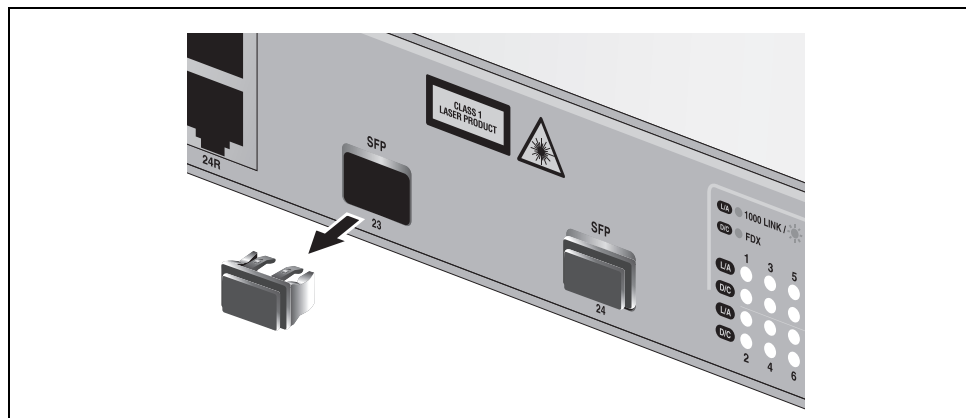

Figure 31. Removing a Dust Plug for an SFP Slot
1. Remove the dust plug from a transceiver slot on the switch, as shown in Figure 31.